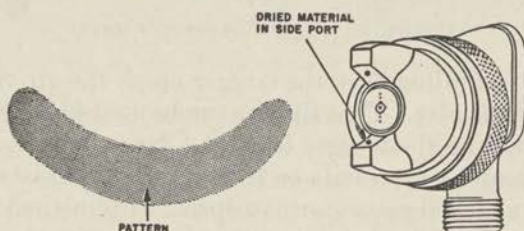

FIGURE 124.—Distorted pattern due to clogged side port in air nozzle.
(3) A defect in the swivel nut on the siphon cup or material hose, affecting its fit.
f. How to correct distorted patterns.—Dried material in one of the side ports restricts the passage of air through it, so that the full air pressure from the clean side port forces the fan pattern in the direction of the clogged side (fig. 124). To correct this condition,